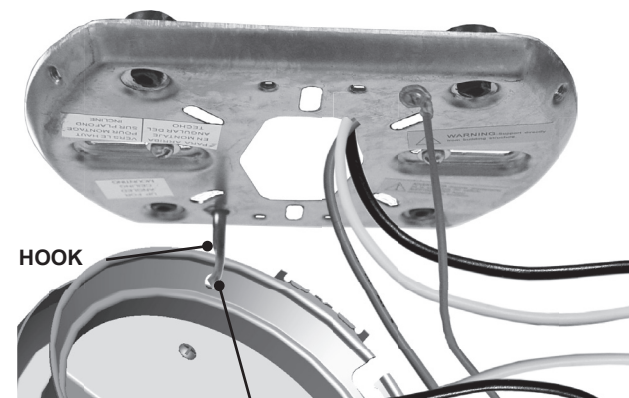
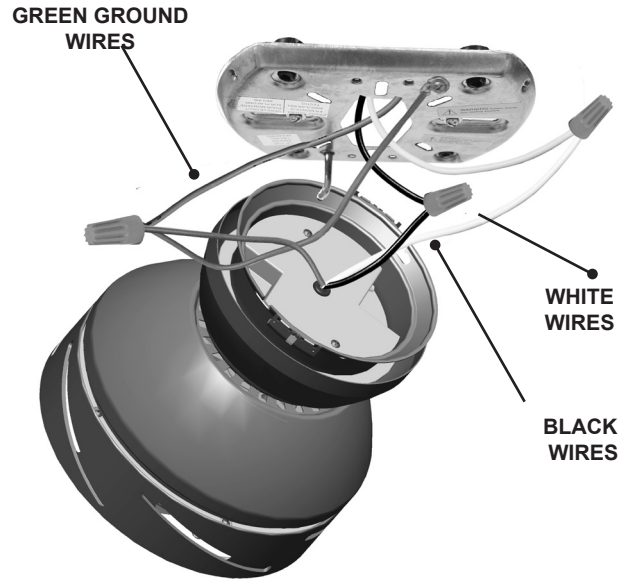

Figure 3
Figure 4
Step 2d. Use the hanging hole on the body of the fan to hang the fan on the hook of the ceiling mounting plate. This will help you in making the electrical connections as shown in Figure 3 and Figure 4.
- GREEN leads from ceiling bracket and motor to GROUND conductor of power source. Secure with wire nut as shown in Figure 4.
- WHITE wire from receiver to the WHITE NEUTRAL conductor wire from the power source. Secure with wire nut as shown in Figure 4.
- BLACK wire from receiver to the BLACK conductor wire from the power source. Secure with wire nut as shown in Figure 4.